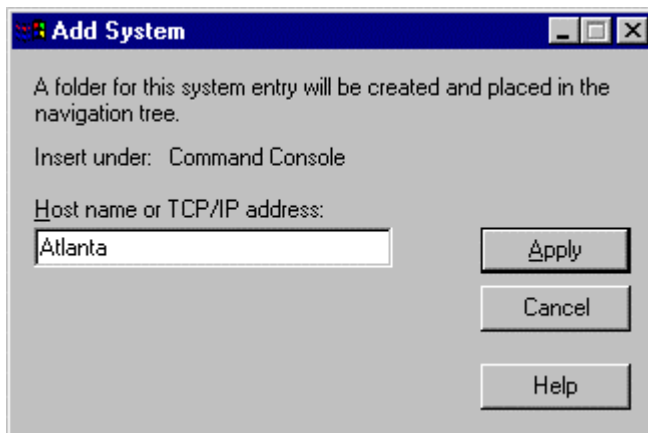

Figure 3-6. The *Add System* window
3. In the Add System Window (Figure 3-6), enter the name or the TCP/IP address of the Client host system on which you are running the software, then click Apply.